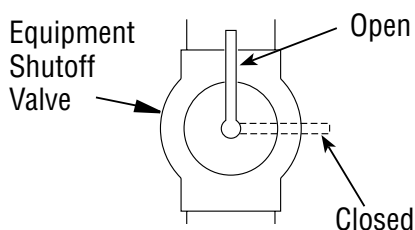

Figure 15 - Equipment Shutoff Valve
1. Close equipment shutoff valve (see **Figure 15**).
1. Open equipment shutoff valve (see **Figure 15, Page 15**).
3. Close equipment shutoff valve (see **Figure 15, Page 14**).